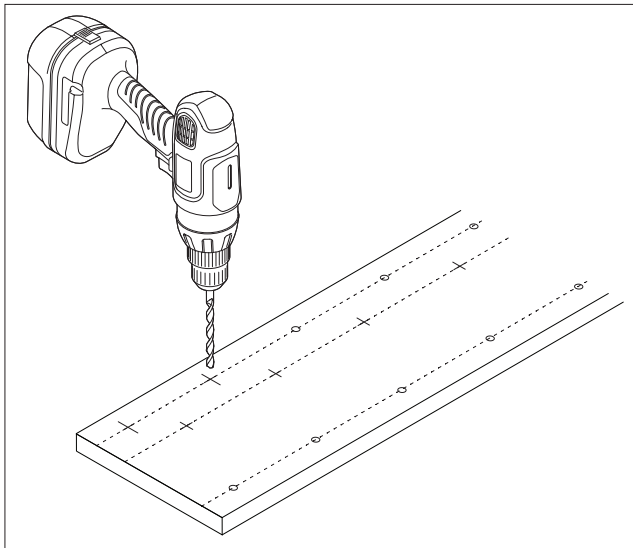

Figure 6
7. Drill pilot holes for the stud installation in the header with an 1/8" drill bit (Figure 6).